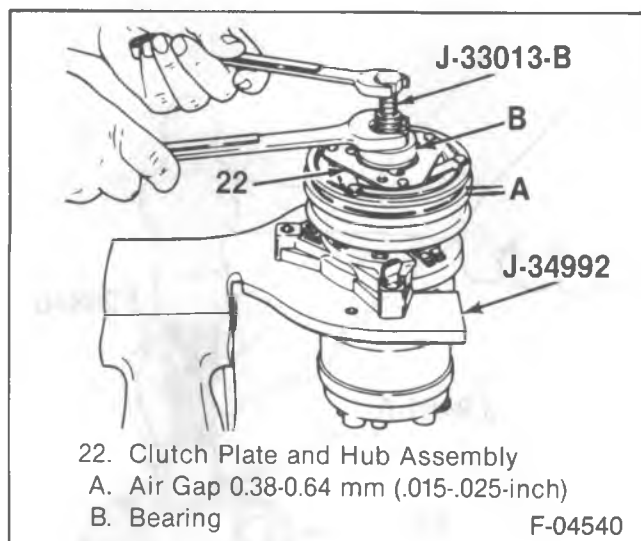

Figure 7—Installing the Clutch Plate and Hub Assembly
- Clutch plate and hub assembly (22) (figure 7).
- Make sure the contact surfaces of the clutch plate (22) and the pulley (26) are clean.
- Install J 33013-B with bearing (B) (figure 7).